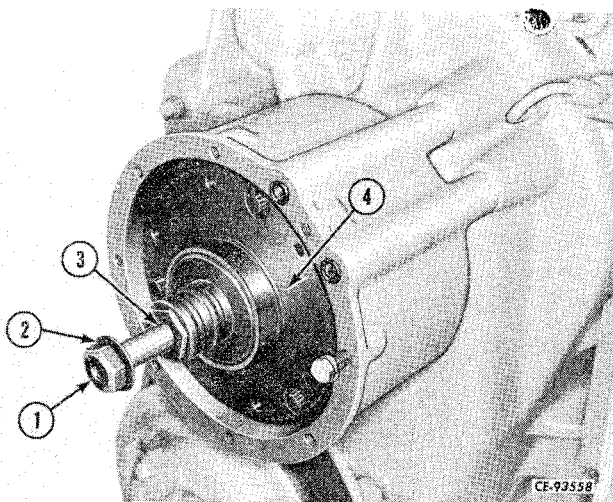

Figure 4-17
Remove the cap screw (1, Fig. 4-17) and washer (2) holding the clutch pack (4) to the countershaft. If necessary, install a cap screw in the tapped hole (3) and pry against it to remove the pack.